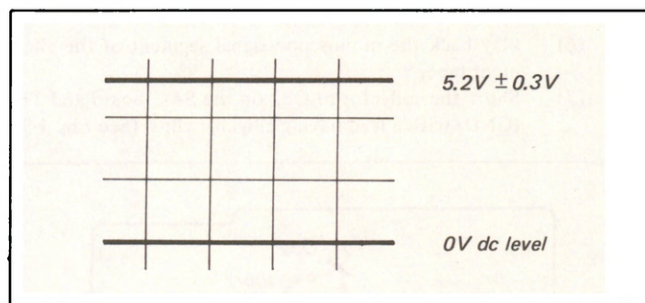

Fig. 4-6. Drum free speed adjustment
- (4) Connect the oscilloscope to TP002. Input: DC range
- (5) Adjust RV8 for a DC level of $5.2\text{ V} \pm 0.3\text{ V}$. (See Fig. 4-6.)